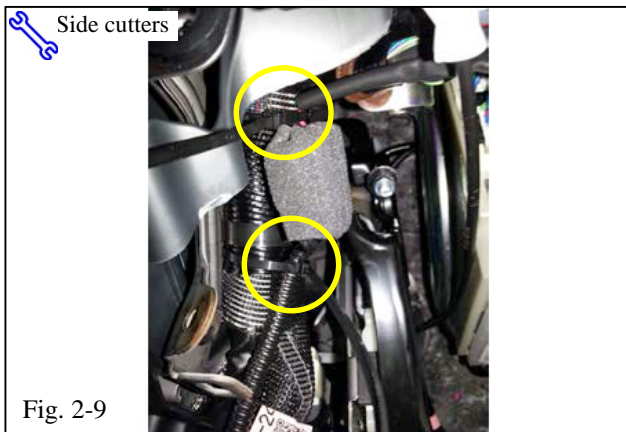

Fig. 2-9
- (l) Route the door sill wire harness along the OE wire harness toward the bottom of the vehicle and secure the fuse with two wire ties (Fig. 2-9).